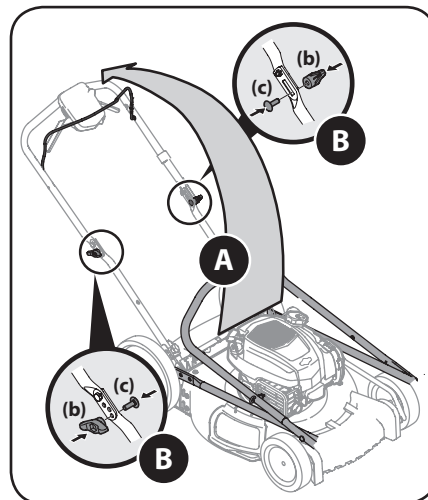

Figure 2-2
5. Reattach wing knobs (b) and carriage bolts (c) removed in Step 3 into lower holes of handle as shown in Figure 2-2.
4. Gently lift and pivot the upper handle into the operating position as shown in Figure 2-2. Make certain the lower handle is seated securely into the handle brackets.